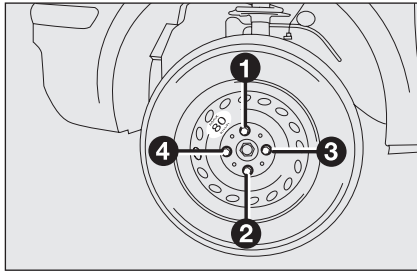

fig. 9
- fasten the bolts completely, working in a criss-cross fashion as shown in **fig. 9**.